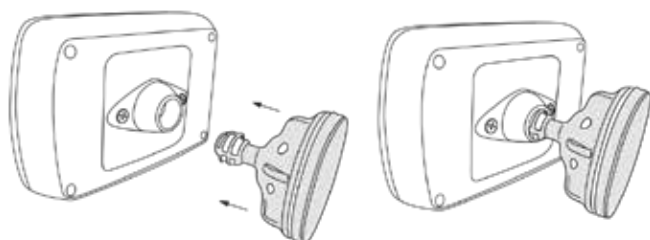

Fig. 03
2. Attach the suction cup to the back of the monitor, pressing it firmly (Fig. 03).